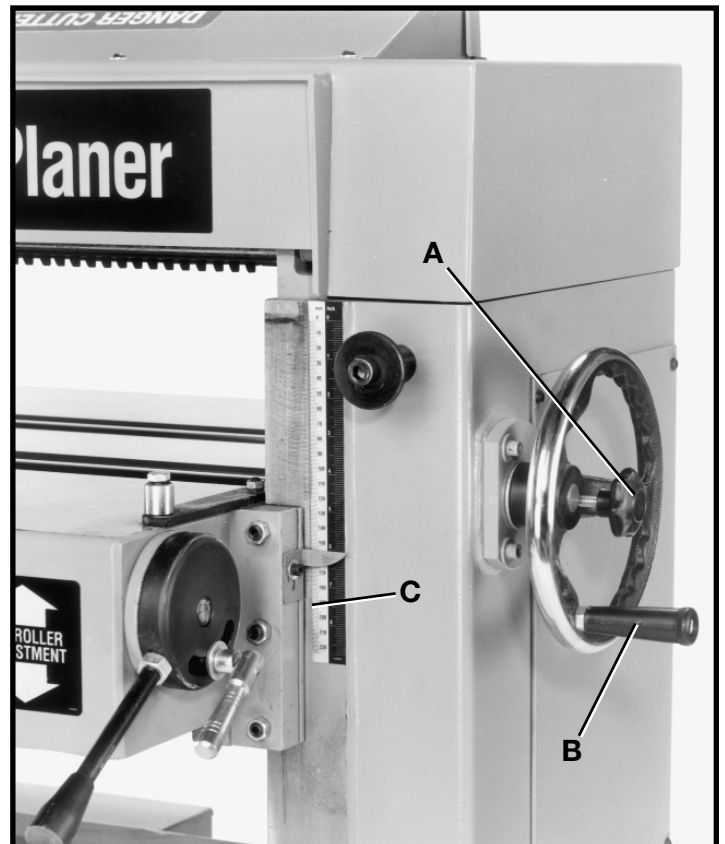

Fig. 15
Adjust the table height by loosening lock knob (A) Fig. 15, and rotating table adjusting handwheel (B). To raise the table, turn handwheel (B) clockwise; to lower the table, turn handwheel (B) counterclockwise. Tighten lock knob (A) Fig. 15, after table height adjustment is made. The English/Metric table height scale (C) Fig. 15, indicates the table height setting. **IMPORTANT:** For best results, setting of the table should always be made from the bottom to the up position.